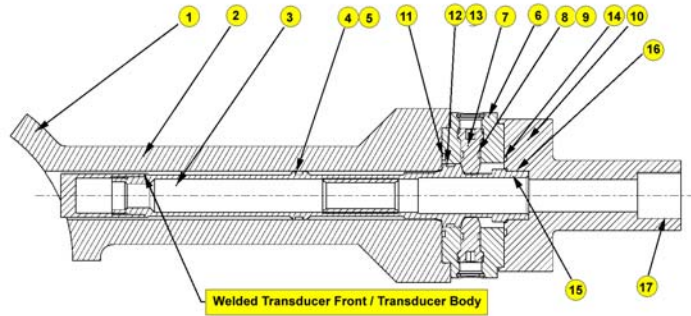

Figure 4 Transducer Mounting
**CAUTION: Make sure that the flamepaths (see Figure 4, pos. no. 15, 16, 17) do not have any damage. If so, the part must be replaced.**
- E. Mount the Cable Gland (EU) or Conduit (US) into the End Cover.